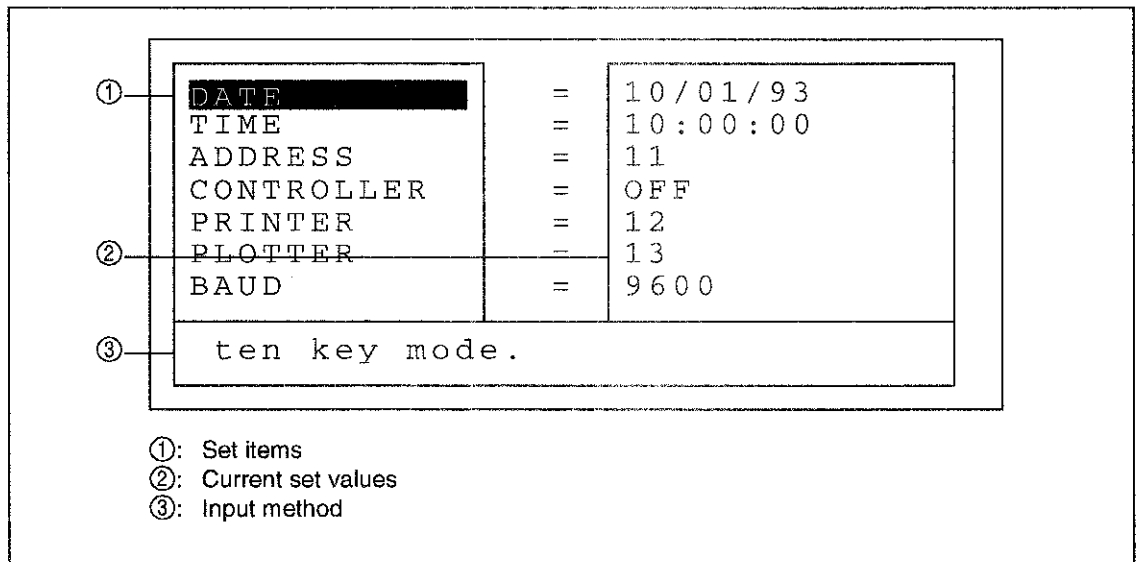
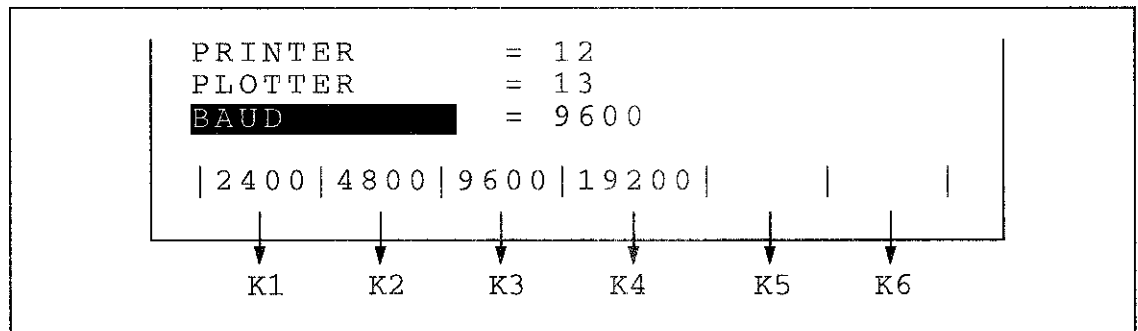

Figure 4-24 CONFIG Mode Screen (for ten-key input)
Figure 4-25 CONFIG Mode Screen (for function key input)
This mode allows the GPIB and serial settings. Pressing the CONFIG key while the BASIC is being stopped causes a screen like that shown in Figure 4-24 to appear.
The first through seventh lines show the set items (① in Figure 4-24) and the current set values (② in Figure 4-24). The current item is indicated by the cursor.
The eighth line shows the input method (③ in Figure 4-24). When the method is shown as "ten key mode.", input numeric values with the ten keys. For other methods, use function keys K1 to K6 for input (see Figure 4-25). The function keys are K1 through K6 from the left most one. The numeric values shown correspond to these function keys. Select the set values from these numeric values. Function keys shown as blank are unavailable. (In Figure 4-25, the K5 and K6 keys are unavailable.)